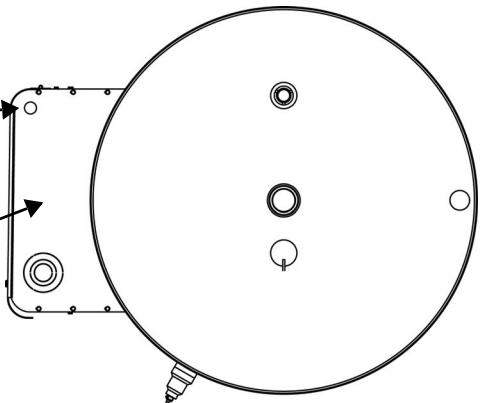

Figure 5
- 2 Open the control cabinet and locate the CCB (central control board). On custom electric models the CCB is mounted on the hinged cabinet door. On standard electric models the CCB is mounted on the upper left portion of the control panel - see Figure 5 on page 5.
- 3 On custom electric models remove one of the 1/2" knockout plugs on the left side of the control cabinet that is at approximately the same height as the CCB. Install a Knockout Bushing (Table 1 on page 1) in the knockout hole - see Figure 5 on page 5.
- 4 On standard electric models that have a factory provided 1/2" knockout (left side of the top plate of the control cabinet) remove the knockout plug. Install a Knockout Bushing (Table 1 on page 1) in the knockout hole - see Figure 5 on page 5.
- 5 On standard electric models that do not have a factory provided 1/2" knockout use a portable drill and a 1/2" electrical knockout punch/die to add a knockout hole on the top plate of the control cabinet. Locate the knockout hole as shown in Figure 5 on page 5. Take steps to ensure metal shavings do not fall into any electrical components such as the CCB, contactors or fuse blocks when cutting the knockout hole. After the knockout hole has been added to the top plate of the control cabinet install a Knockout Bushing (Table 1 on page 1) in the knockout hole.
- 2 Locate J2 and J9 sockets for gas and electric water heaters as shown in Figure 3 on page 3 and Figure 5 on page 5.
- 5 On electric water heaters route the cable end of each MDA through the knockout bushing installed earlier (page 4) and plug the MDA cable end into the J9 socket on the CCB - see Figure 8 on page 7. Secure MDAs with the supplied Velcro strips outside the control cabinet on the top or side of the cabinet - see Figure 5 on page 5.